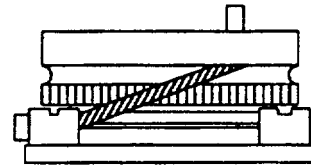
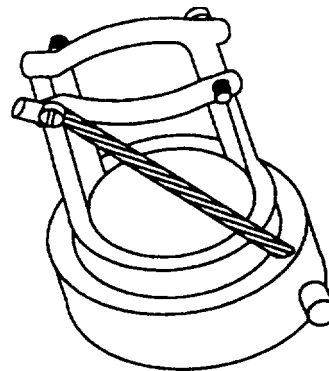
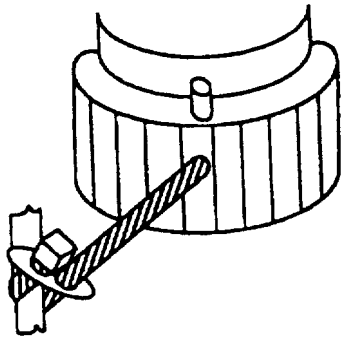

Figure 13. Threaded Coupling and Assembly Nut Safety Cable Installation Detail
Figure 18. Assembly Nut to a Backshell or Strain Relief Screw Safety Cable Installation.
Figure 19. Assembly Nut Self-Looping Safety Cable Installation.
36. **CONNECTORS WITH THREADED COUPLINGS.** Select the appropriate diameter safety cable using the guidelines in this manual, and install safety cable on threaded couplings as shown in Figure 13.
41. **Assembly Nuts.** When assembly nuts are used, safety cable may be installed between a strain relief screw, or other backshell screw (Figure 18), to a fastener such as the receptacle flange screw (Figure 13), or it may require a self-looping safety cable (Figure 19).